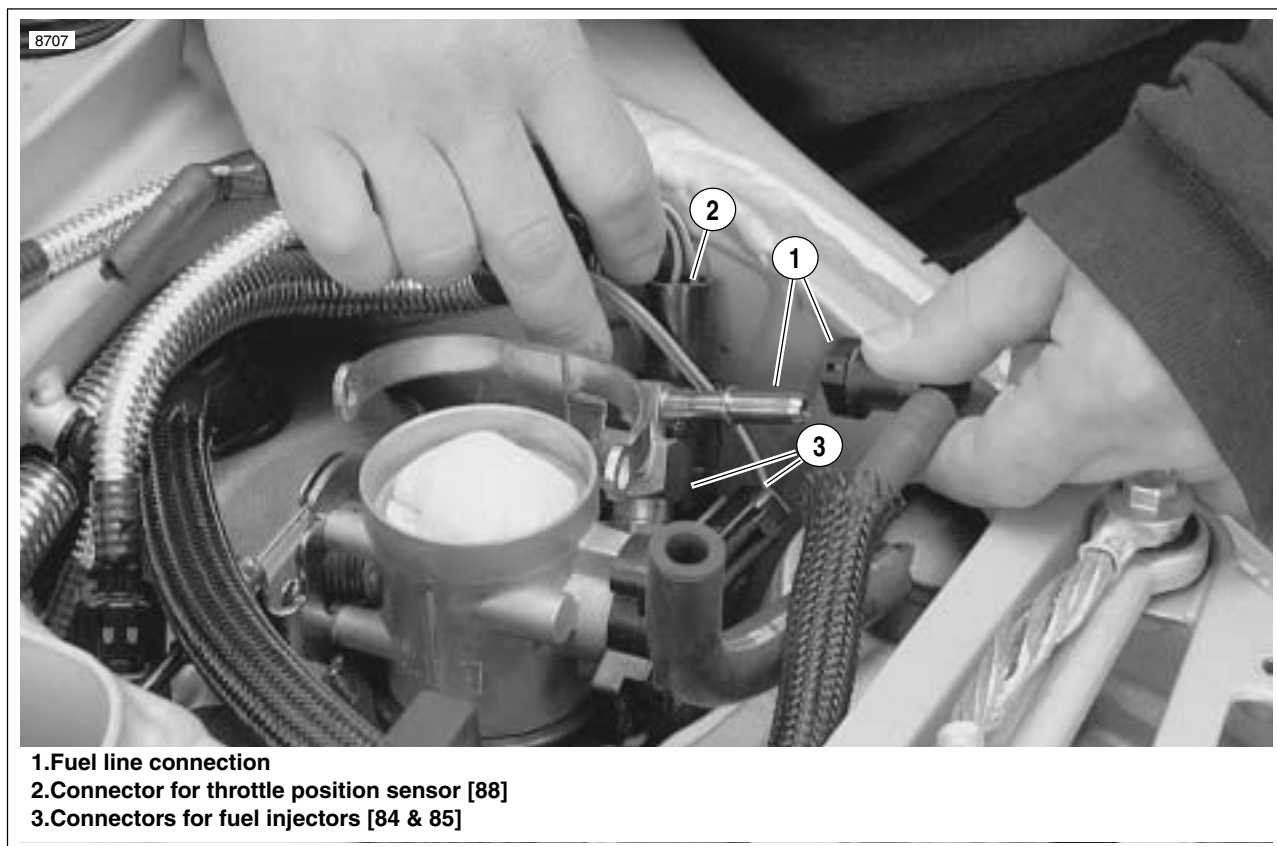

Figure 3-59. Fuel Line and DDFI Electrical Connections (Typical)
39. See Figure 3-59. Connect throttle position sensor [88] (20).
40. Connect fuel injector leads [84 & 85] (3).
41. Connect fuel line (1).